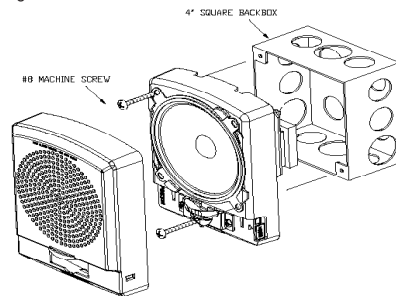

Figure 7: Four-Inch Square Backbox Mounting
- All models can be flush mounted to a 4" square by 2-1/8" deep backbox in the wall, refer to Figure 7.